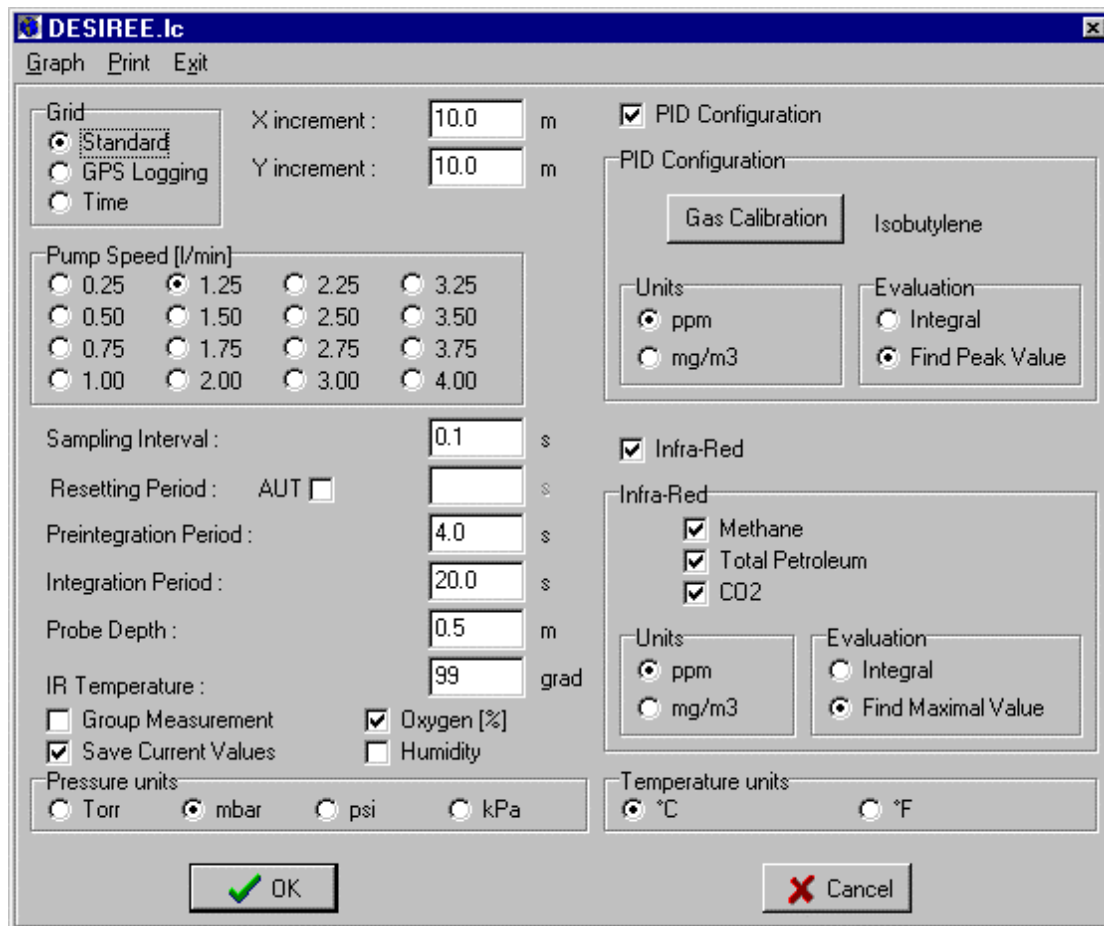

Figure 2: System Configuration File
- *Load* Accesses a list of Localities. Select and open a Locality to display its *System Configuration File* (Figure 2).
- On the **Locality** menu, click **Load**. Select and open a Locality to display its System Configuration File (Figure 2).
- On the short menu, click Edit. System Configuration File will be displayed (Figure 2). All changes can be saved in Ecoprobe 5.
Either operation above, creates five file icons in the left window. To access a file, select it and click with the **R** button. A Sub Menu will appear, from which *View* is selected to open the file (Figure 2).